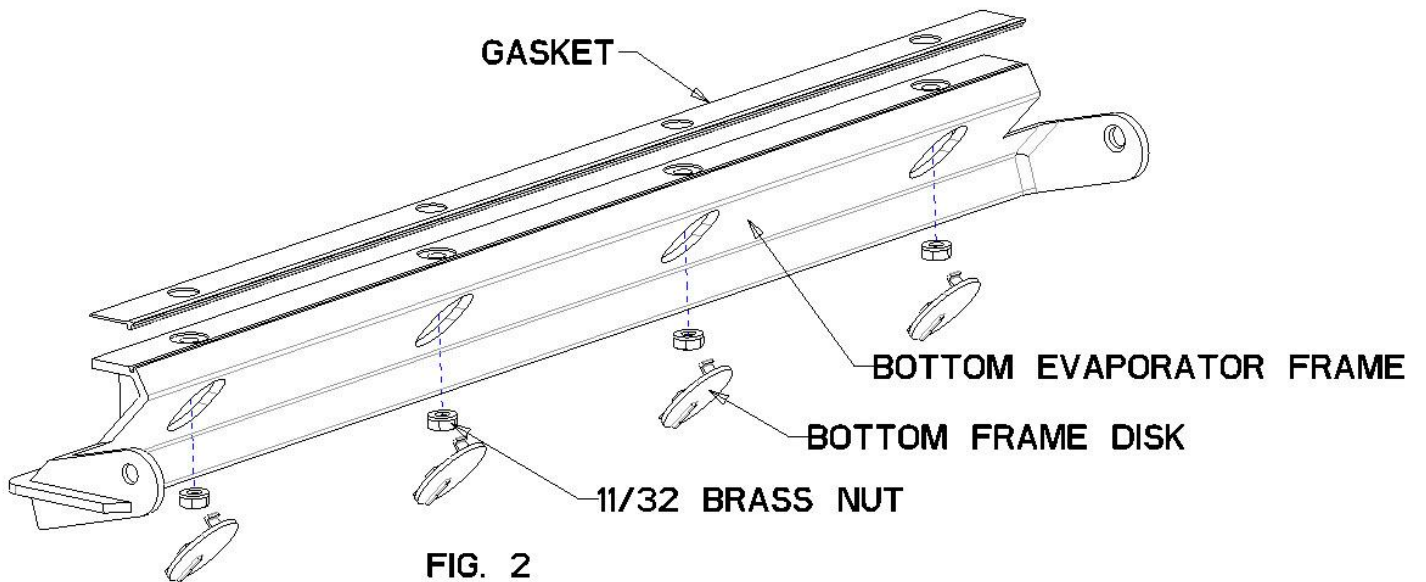

FIG. 2
4. Remove all four 11/32" brass nuts; pull bottom evaporator frame and gasket from evaporator (Fig. 2).